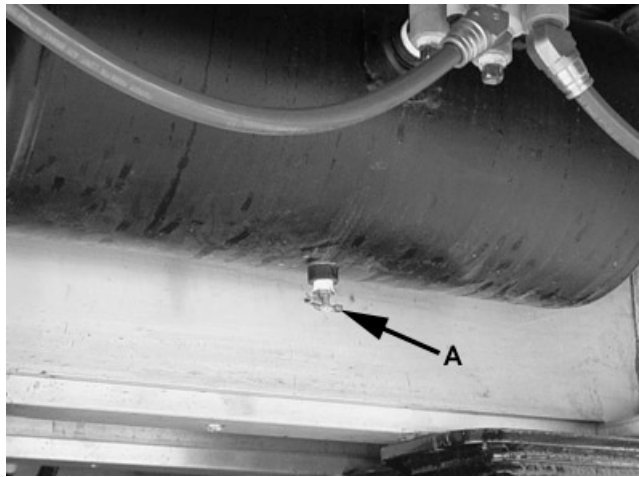

Figure 8-3 Drain Trailer Air Tanks
Drain moisture from trailer air tanks by opening petcock (A) on the bottom of each air tank. See figure 8-3. Close petcocks after draining.